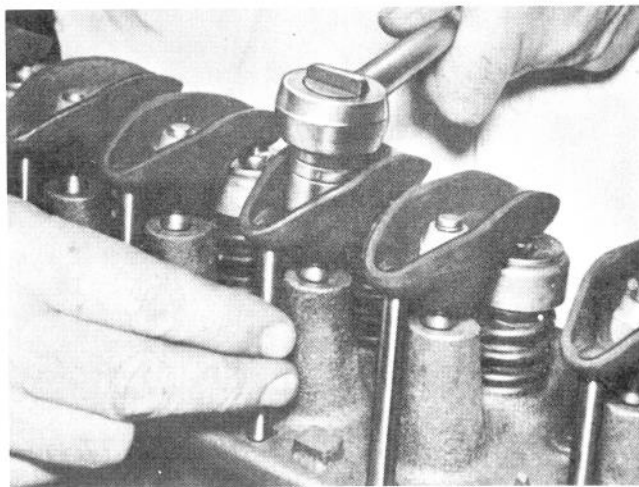

Figure 56
- c. Back out adjusting nut until lash is felt at the push rod then turn in adjusting nut until all lash is removed. This can be determined by checking push rod end play while turning adjusting nut (Figure 56). When play has been removed, turn adjusting nut in one full additional turn (to center lifter plunger).